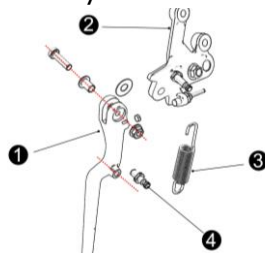

Fig 35
11.6 Disassemble left pedal assembly (see Fig 35)